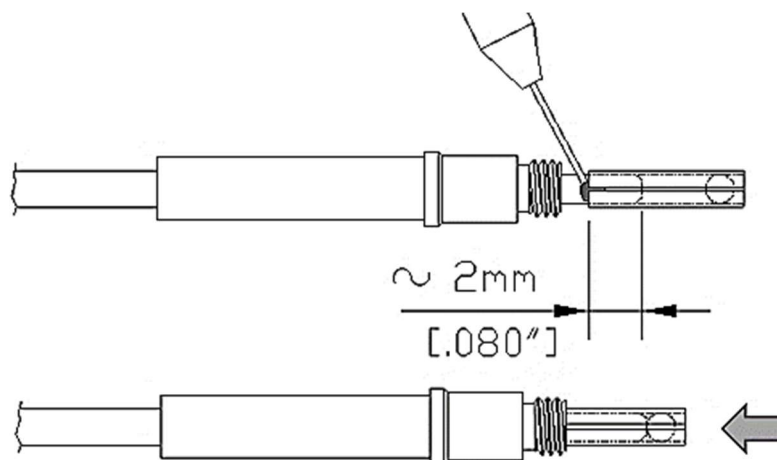

Figure 5
1. Taking care not to touch or otherwise contaminate the lens, slide the socket lens-unit onto the ferrule (with the open end first which is opposite the lens) - but not all the way. Stop when it has engaged an approximate ferrule length of 1.5 - 2.5 mm [.060 - .100 inches]. Apply EPO-TEK® 353ND epoxy to the ferrule just below the lens-unit, see Figure 5.